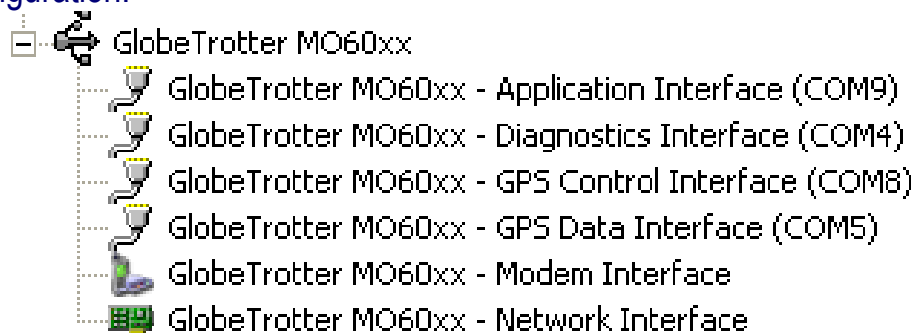

Figure 12: Ports occupied by the GTM60x
You can verify if the device is installed by opening Device Manager. Please configure it in the menu via “View”, “Devices by connection”. Expand the tree until you see the GlobeTrotter® module as shown in Figure 12.
(5) Repeat steps 3 to 4 for all drivers. Windows will start a wizard for each interface.
(6) On successful installation of all drivers, the device manager will show the following typical installed devices. Please configure the device manager by selecting “*View*”, “*Devices by connection*” (See Figure 12).